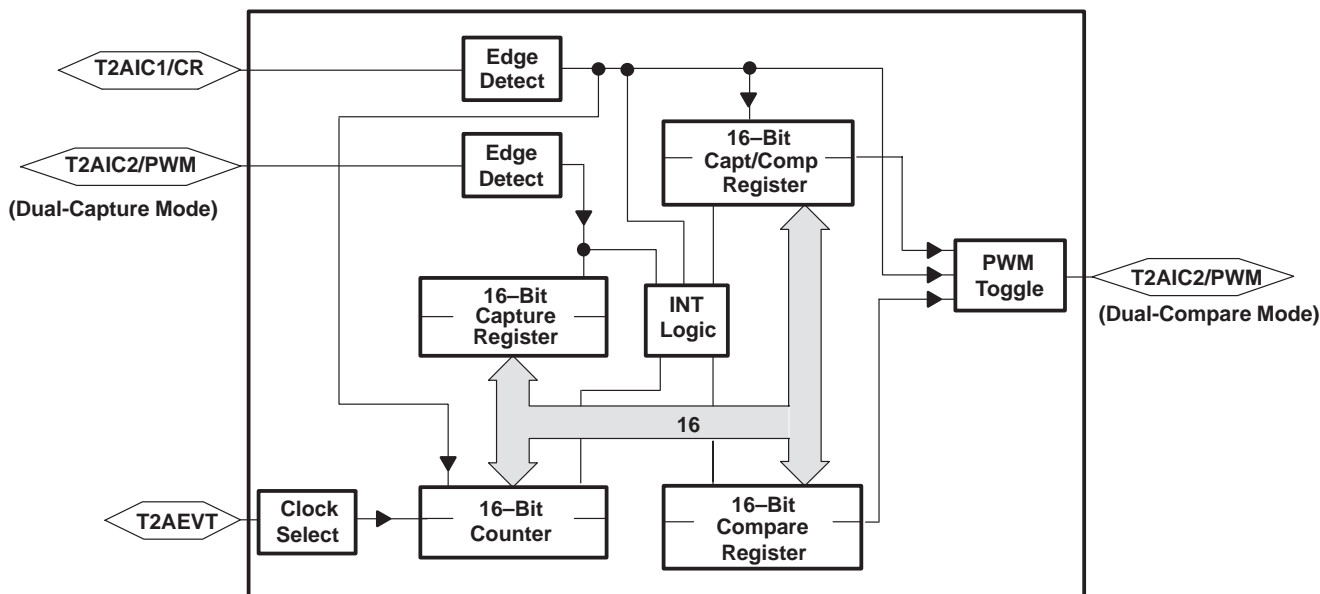

**Figure 10. Simple Counter**
- Simple-counter configuration (see Figure 10) – for mask-ROM devices only